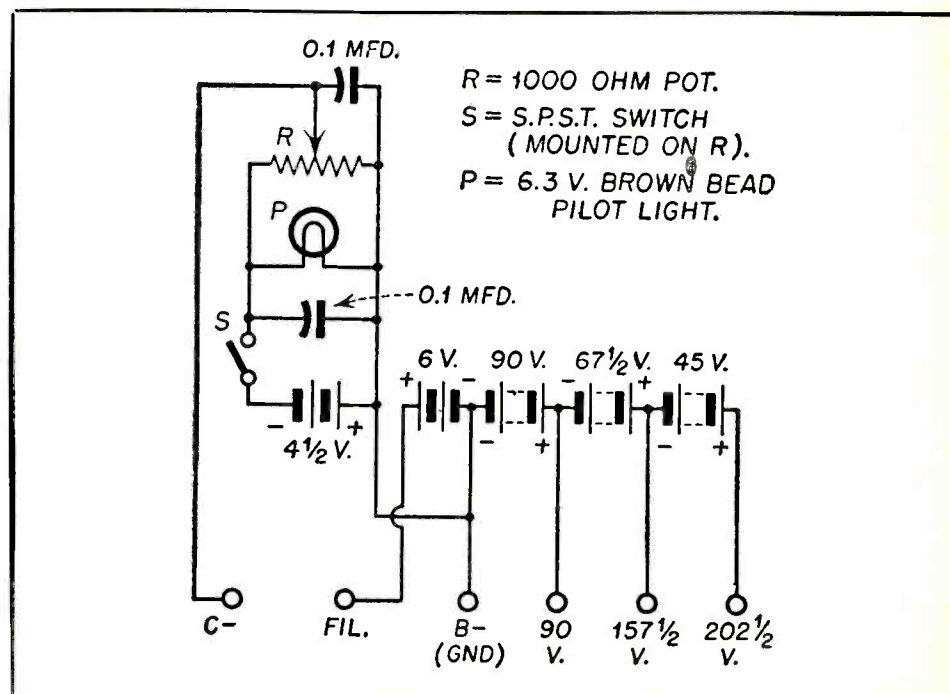

Fig. 4—Battery power supply for obtaining various values of "C" bias. Higher voltage "C" batteries may be substituted.
4. Low voltage *dc* bias power supply (See Fig. 4).
power supply arrangement as shown in Fig. 4.